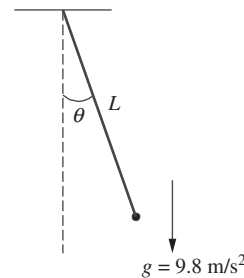

Figure P6.16 A simple pendulum.
- 6-16.** A simple pendulum of length $L = 100$ cm is shown in Fig. P6.16. The angular displacement $\theta(t)$ in radians is given by
- 6-17.** A simple pendulum of length l and mass m oscillates in the vertical plane, as shown in Fig. P6.16. If $l = 0.1$ m, $m = 0.5$ kg, and $\theta(t) = \frac{\pi}{6} \sin\left(\sqrt{\frac{g}{l}} t + \frac{\pi}{2}\right)$ rad,